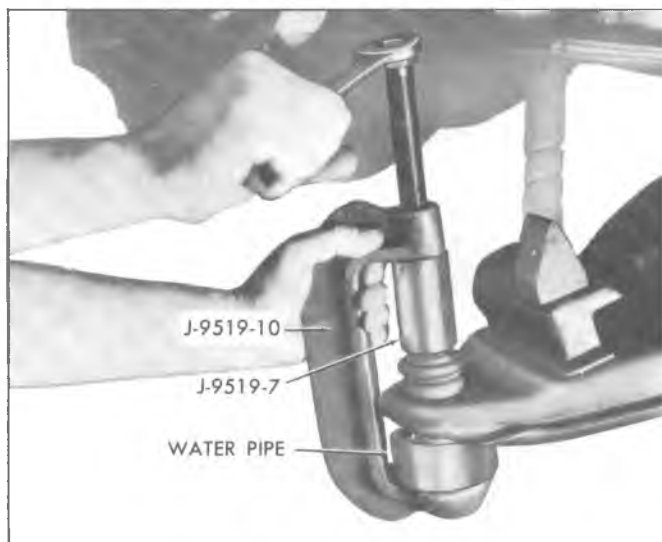

Fig. 18—Ball Joint Removal
- Install Tools J-9519-10 and J-9519-7 as shown in Fig. 18.